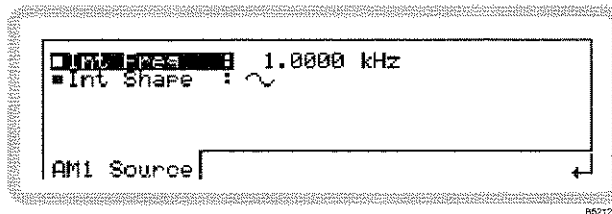

Fig. 3-75 Internal source, modulation path 1
- 2 Press **SIG GEN** to show the main screen. Touch the appropriate modulation soft box, followed by **Int**, to select the function. Press **Int** to view the internal source menu for path 1 (Fig. 3-75).